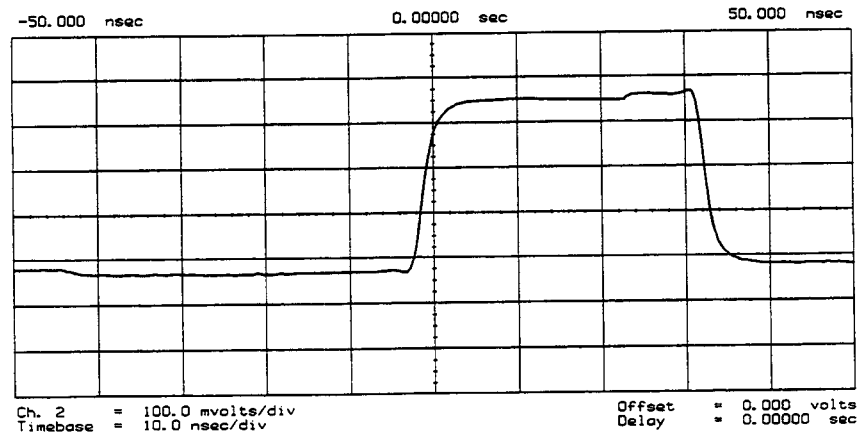

Figure 17. 10 MHz HI OUT Waveform from A14J1
3. Vary the fractional-N VCO frequency with the RPG knob and check the signal with the oscilloscope. The waveform should resemble Figures 17, 18 and 19.